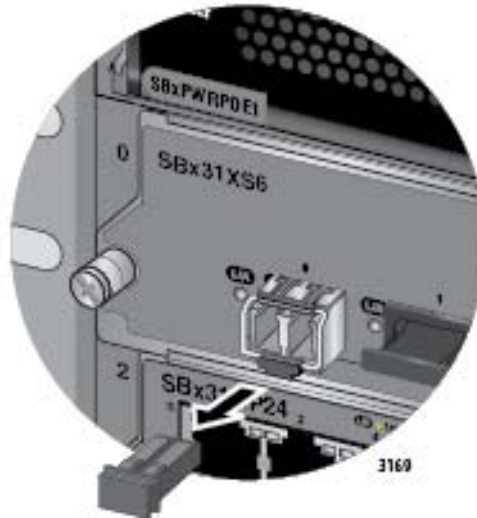

Figure 97. Removing the Dust Cover from an SFP+ Transceiver in the AT-SBx31XS6 Line Card
4. Remove the protective cover from the SFP transceiver, as shown in Figure 97 on page 156.